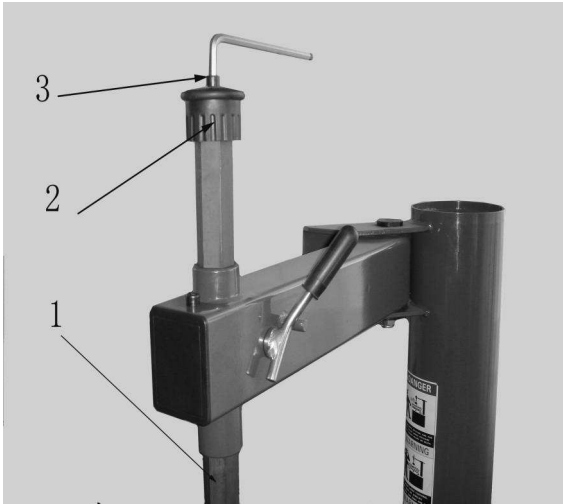

Fig. 5
- Place the column on the body. The direction of the warning label is forwards. Make the holes on the column base plate align to thread holes on the body. Once again assemble the removed the bolt (3.2.1), elastic washer and plate washer and plate washer removed in 3.2.1The torque is 70 N·M (FIG5) Use torsion wrench to tight.